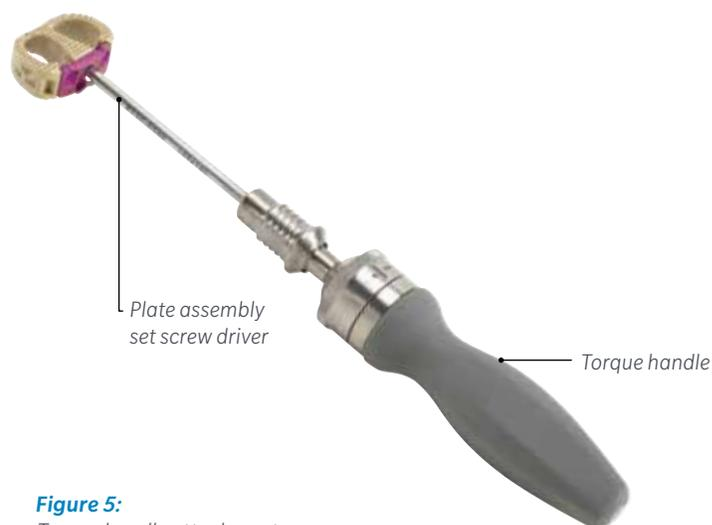

Figure 5:
- Attach the ratcheting torque handle to the plate assembly driver and tighten to the limit of the torque handle (12 in-lb [1.355 Nm]). (Figure 5)